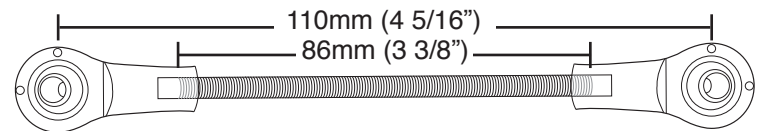

fig. 2
- Trim the threaded rod to 86mm (3 3/8"). The linkage will be 110mm (4 5/16") from eye to eye. The linkage must have a minimum of five threads of engagement into both ends (Fig. 2).